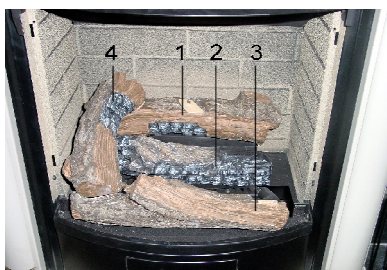

Figure 5
- Insert the pinhole on the upper part of log 4 into the pin on the left side of log 1. Place the lower part or the flat roof at the left side of log 3 (Figure 5).